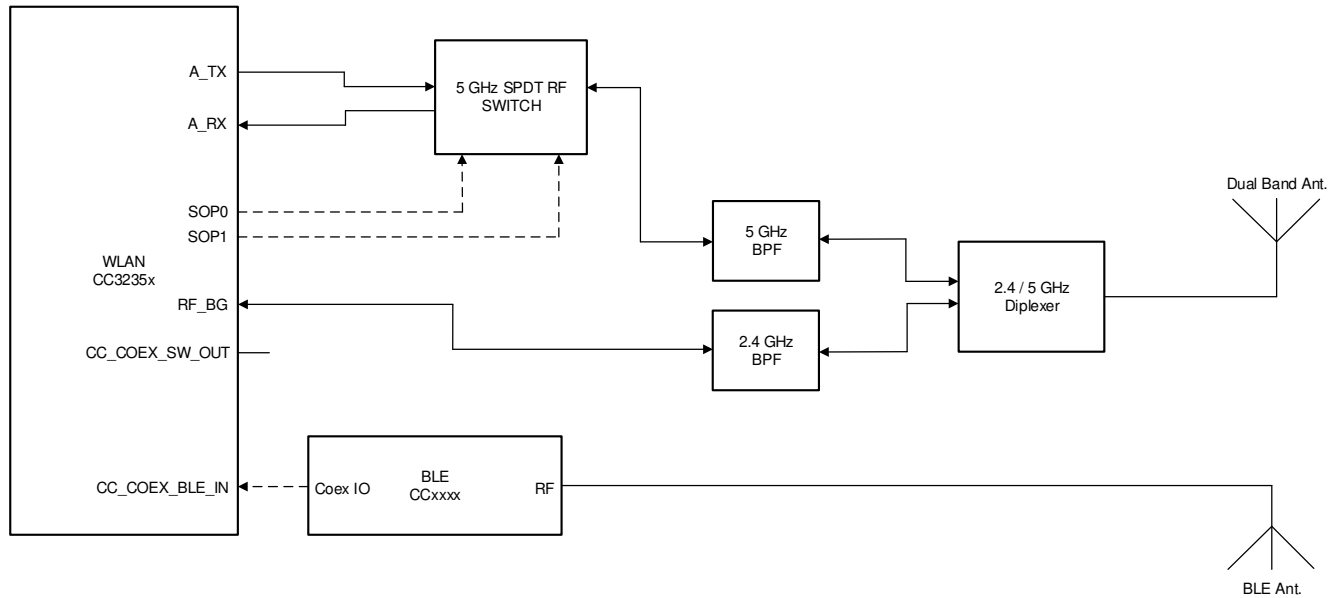

Figure 10-4. Dual Antenna Coexistence Solution with 5 GHz Wi-Fi
- 5 GHz Wi-Fi band (see Figure 10-4)
Figure 10-4 shows the dual antenna implementation of a complete Bluetooth® low energy and WLAN coexistence network with the WLAN operating on either a 2.4- or a 5 GHz band. In this case the 2.4 GHz and 5 GHz Wi-Fi share an antenna and the BLE has it's own dedicated antenna. The SOP lines control the 5 GHz switch. Note in this implementation no Coex switch is required and only a single GPIO from the BLE device to the CC3235x device is required.